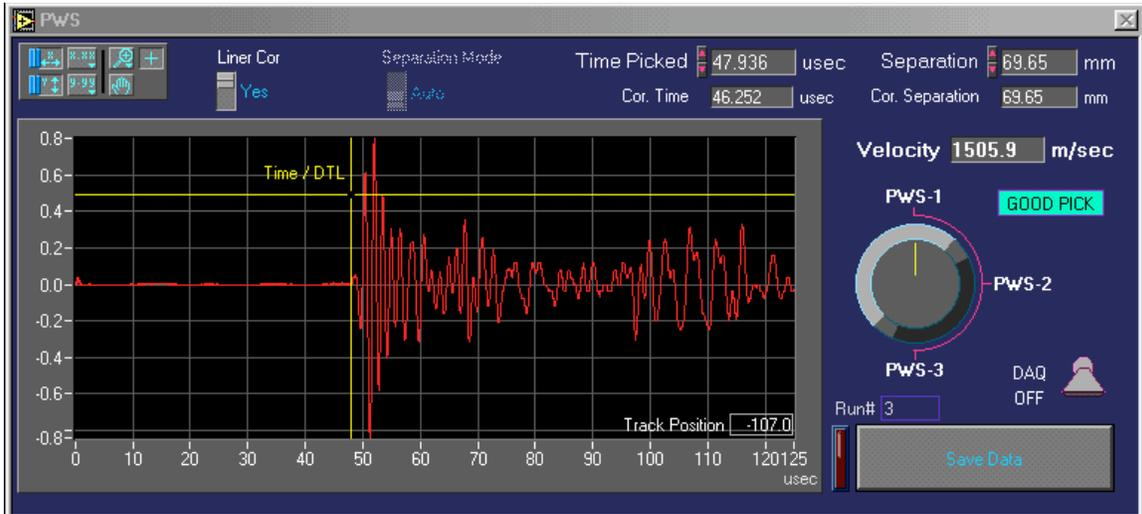

Figure 18. PWS screen.
1. Measurements will be made using the upper right graph (Figure 18). Turn the knob so that the yellow indicator line is pointing to PWS 3.